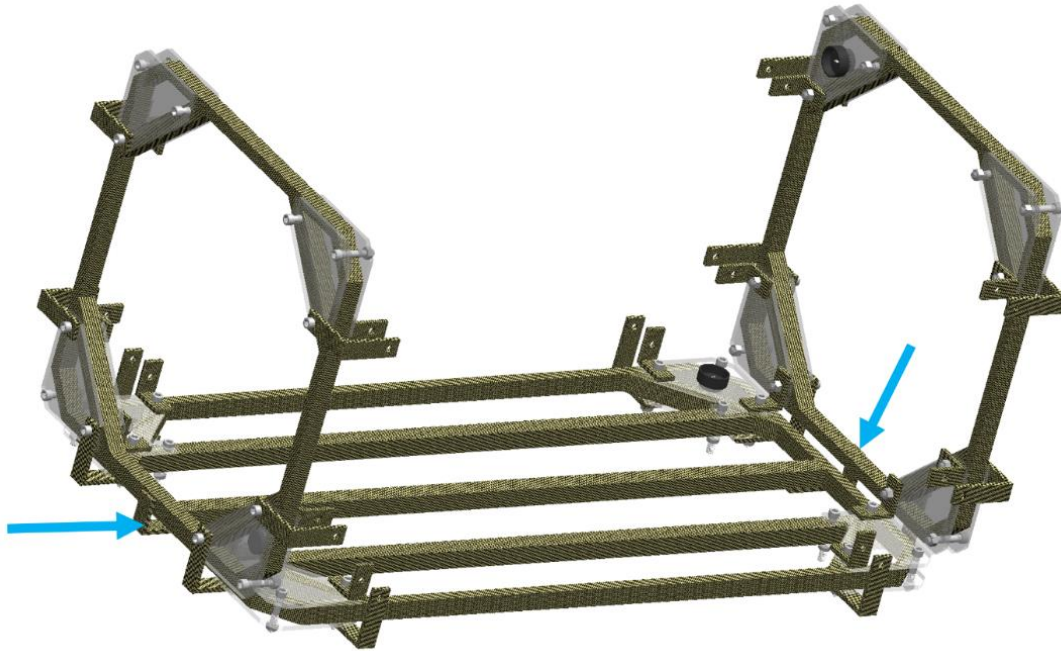

Figure 1.5
5. Epoxy the two Cube Beam Brackets (PN THCU005) to the Bottom Coil in the appropriate place as shown in Figure 1.5. The 1" wide Cube Beam Brackets should line up with the 1" wide Cube Support Beam (THCU002). The leg of the Cube Beam Brackets that does not have a hole drilled in it should be flush to the side of the Left or Right coil, while the side with the hole drilled in should be under the Cube Support Beam. **ONLY epoxy the Cube Beam Brackets to the Bottom Coil and Cube Support Beam. DO NOT epoxy the Cube Beam Brackets to the Right and Left Coils.**